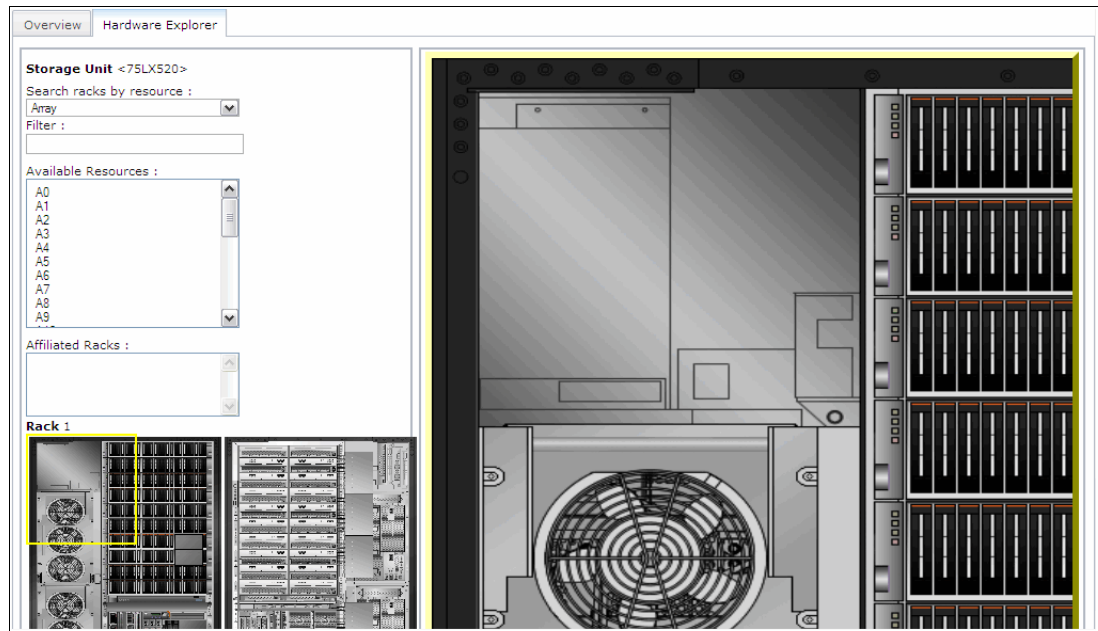

Figure 13-69 Hardware Explorer window
3. Select the Hardware Explorer tab to switch to the Hardware Explorer window (Figure 13-69).